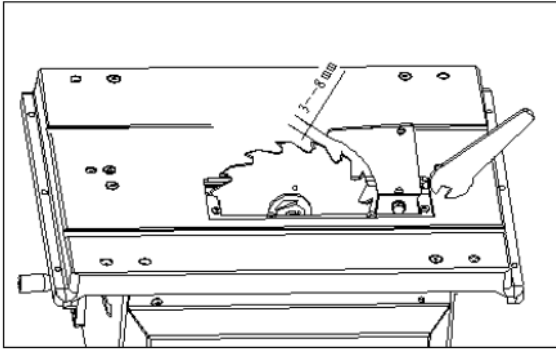

Fig.6
- 2) Adjust the splitting wedge, ensuring a distance of approximately 3 mm from the saw blade (Fig. 6).